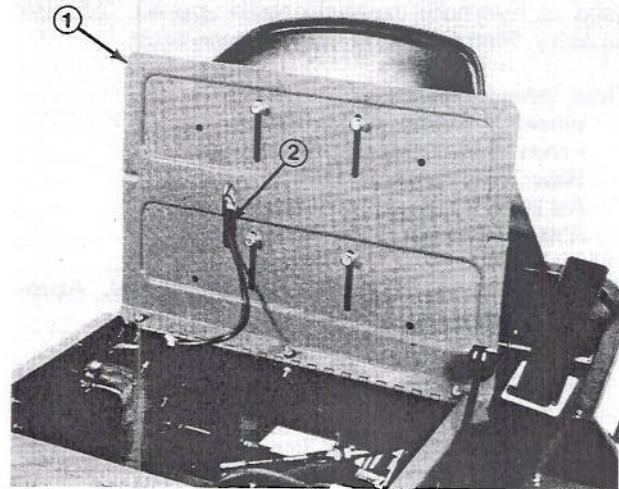

Figure 2
- Position seat onto seat plate aligning mounting holes and routing seat switch wire thru slot (Fig. 2).
- Loosely secure seat to seat plate with (4) capscrews, flatwashers and lockwashers.
- Adjust seat to desired position, tighten capscrews and plug seat switch connector into wire harness (Fig. 2).